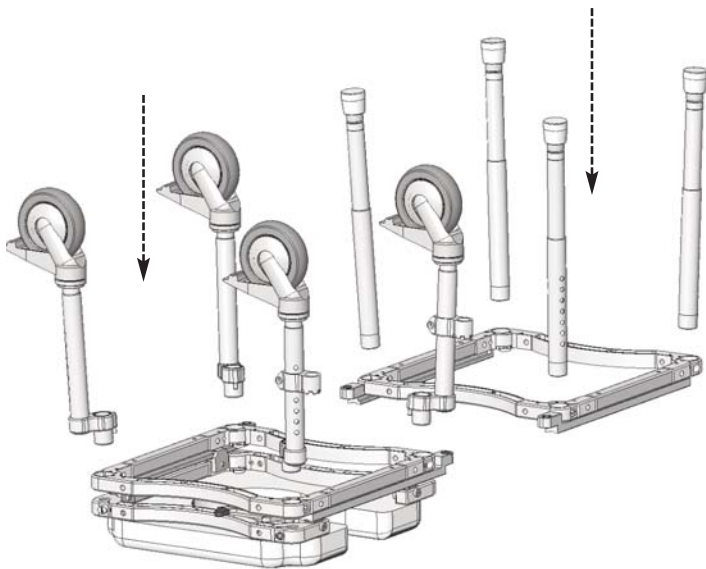

Figure 2
**C** Position the frames upside down and install the legs (Refer to Figure 2): The roll-in frame has caster legs and the tub section has stationary legs.
**D** Position the roll-in legs so that the offset points out at a 45-degree angle. Note the small pin that mates with holes in the frame. Make sure that the legs slide "home" into the socket of the seat frame. Use the included ¼" Allen wrench to securely tighten the bolts located at the corners of the frame (Refer to Figure 2 & 3).